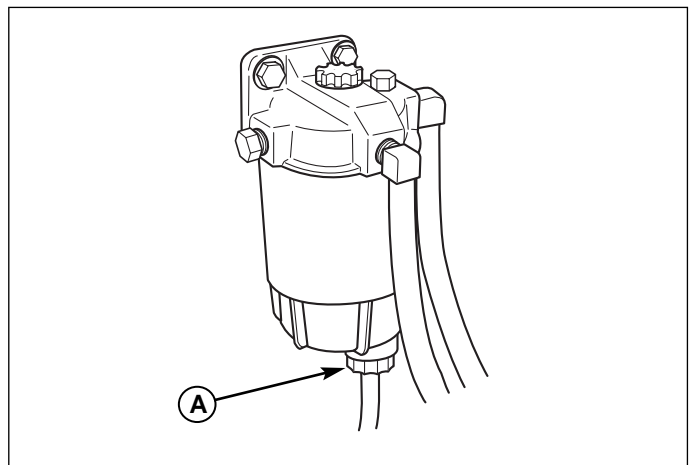

Figure 12. Drain Fuel Filter
2. Allow the engine to cool for five (5) minutes before draining the fuel filter.
3. Place a container under the drain valve (A, Figure 12) and turn the drain valve approximately 1-2 turns.